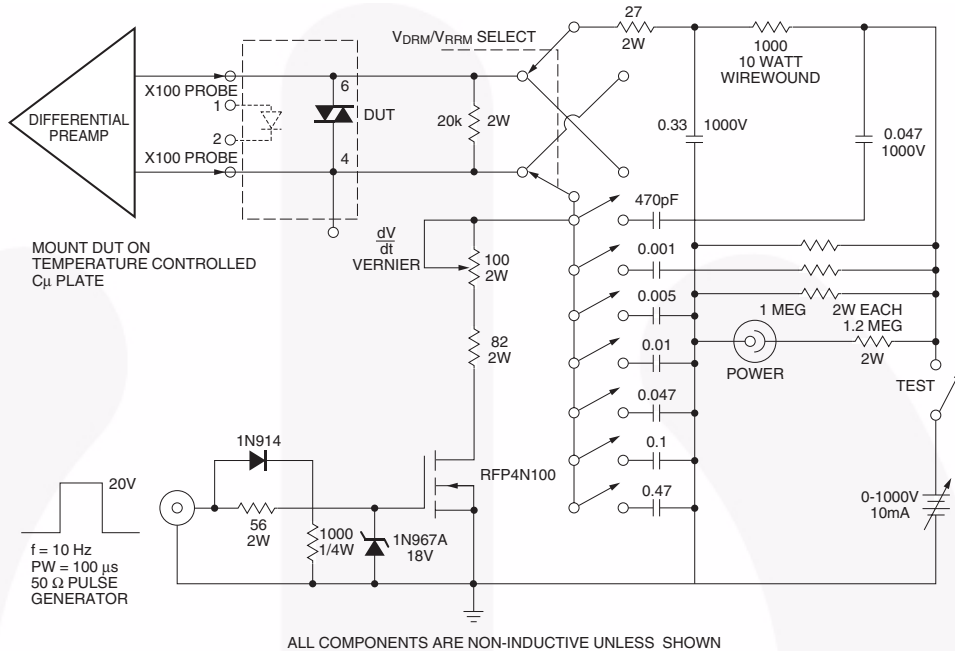

Figure 9. Circuit for Static  $\frac{dv}{dt}$  Measurement of Power Thyristors
- This is static dv/dt. See Figure 9 for test circuit. Commutating dv/dt is a function of the load-driving thyristor(s) only.